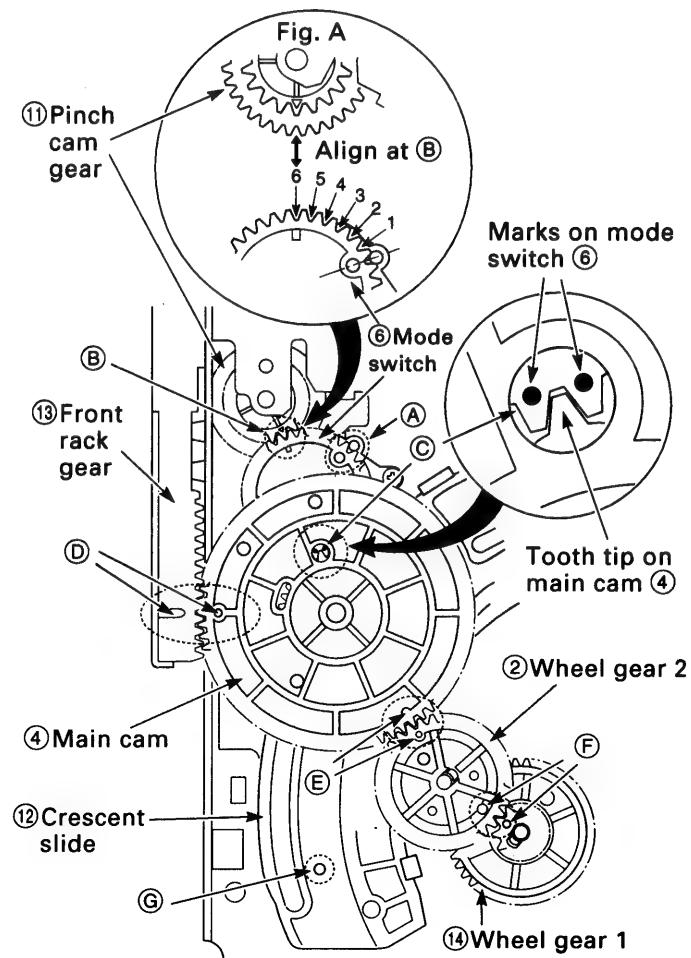
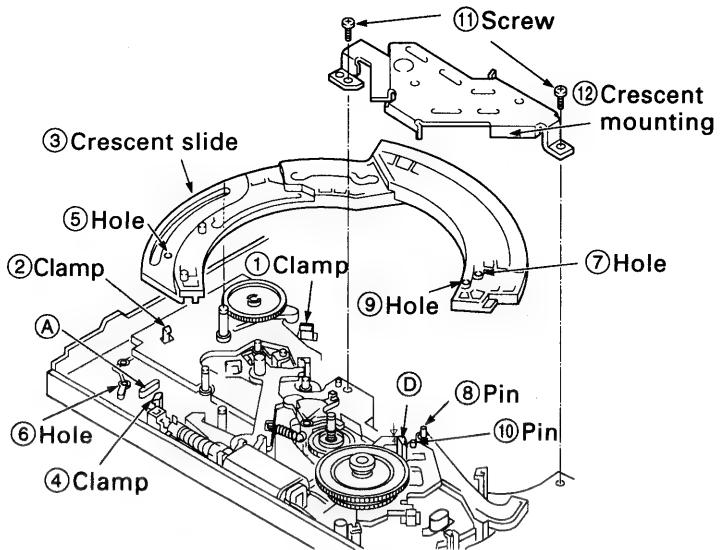
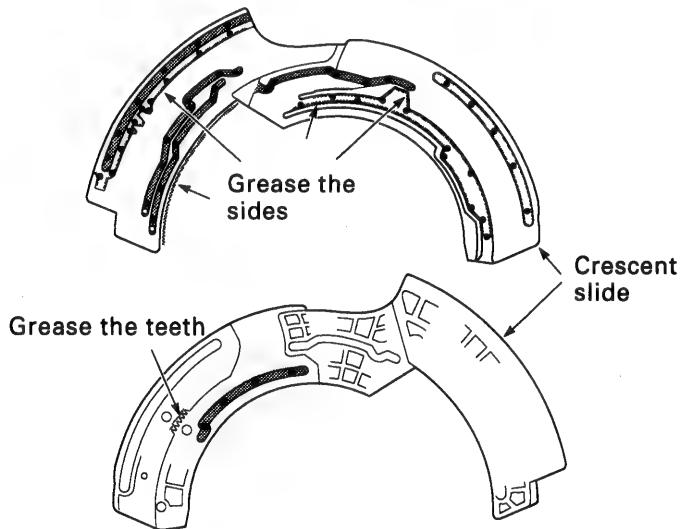

Fig.3-15-2
Fig.3-16-1
Fig.3-16-2
1. Apply grease (VHJ-0100) to the shafts ⑧, ⑨ and ⑩, to the teeth of the main cam ④, and to the all over the cam groove of main cam ④.
2. When fitting the mode switch ⑥, align it in ⒶⒷ order as shown in Fig.3-15-2. The alignment of the part Ⓑ is shown in Fig. A. Position the teeth of the mode switch ⑥ so that the sixth tooth space left of part Ⓐ is aligned with the triangular mark on the pinch cam gear ⑪. After aligning part Ⓑ, refer to section 3-9-2 and check the positioning of the mode switch, the pinch cam gear and the pinch lift cam.
4. Align the hole in the crescent slide ⑫ with the hole in the mechanism chassis, as shown at point ⑤ in Fig.3-15-2 (refer to section 3-16 and see the holes ⑤ and ⑥ in Fig.3-16-1).
5. When fitting the main cam ④, position the mode switch ⑥ and the front rack gear ⑬ as shown at points ⑥ and ⑦ respectively in Fig.3-15-2.
6. When fitting the gear wheel 2 ②, position the main cam ④ and the wheel gear 1 ⑭ as shown at points ⑧ and ⑨ respectively in Fig.3-15-2.
(See Figs.3-16-1 and 3-16-2)
1. Apply grease (VHJ-0100) to the points ④, ⑤, ⑥, ⑦ and ⑧ in Fig.3-16-1, and to the crescent slide ③ shown in Fig.3-16-2.